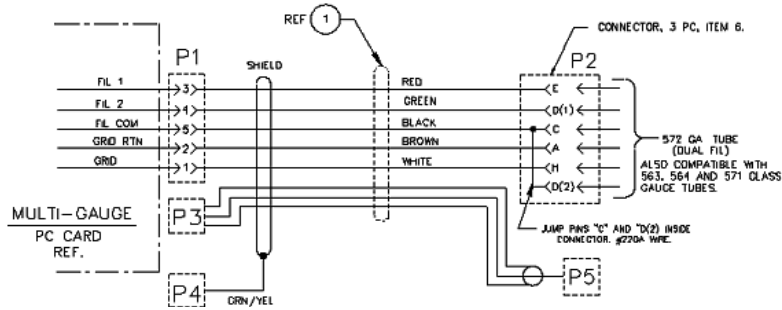

Figure 5: Glass BA Gauges Wiring
1. Wire the connectors as in Figure 5: Glass BA Gauges Wiring.